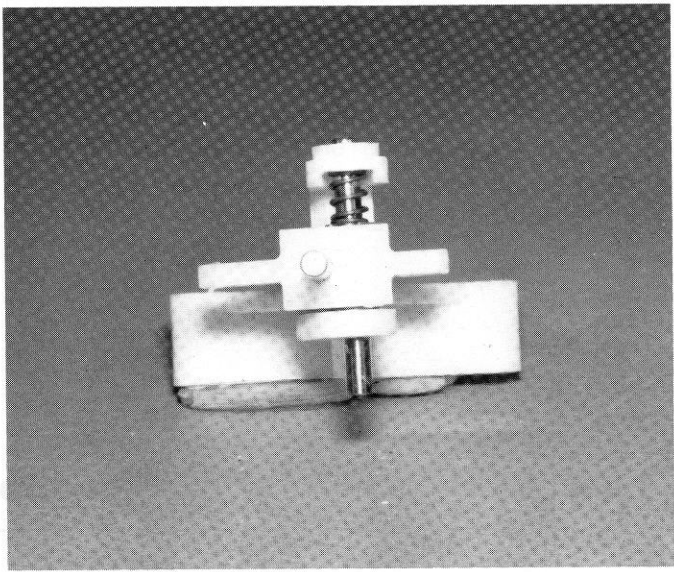

**Fig. 3**
**Fig. 3**— Empty Bag #2 into a paper plate. Take one of the #3213 front axles and push in one of the #3214 "E"-clips into the axle groove. The "E"-clips are taped together and can be seen a little better in the photo. Put another clip on the other axle. Now slip one of the small white nylon washers all the way onto the axles and up against the "E"-clip.